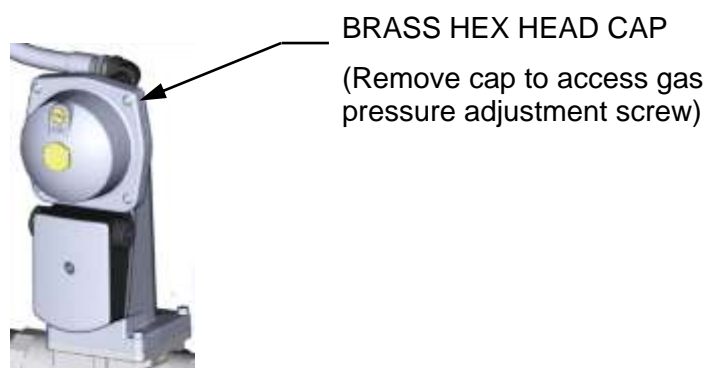

Figure 4.3-4. SSOV Gas Pressure Adjustment Screw Location
12. Verify that the gas pressure on the **downstream** side of the SSOV is within the required range shown in Table 4.3-1. If it isn't, remove the brass hex nut on the SSOV actuator to access the gas pressure adjustment screw (Figure 4.3-4). Make adjustments using a flat-tip screwdriver, slowly rotating the gas pressure adjustment (in 1/4-turn increments) **clockwise** to **increase** gas pressure or **counterclockwise** to **reduce** it. The resulting gas pressure reading on the **downstream** manometer should fall in the range listed below.